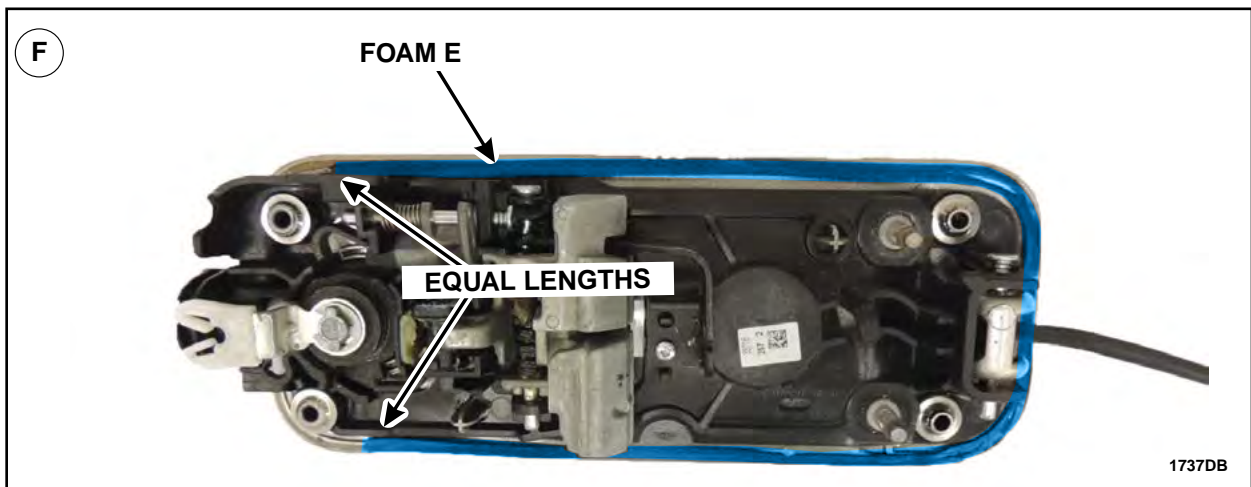

FIGURE 46
- F. Without stretching the foam adhere it to the exterior door handle ensuring that both sides of Foam E are of equal length once secured. See Figure 46.